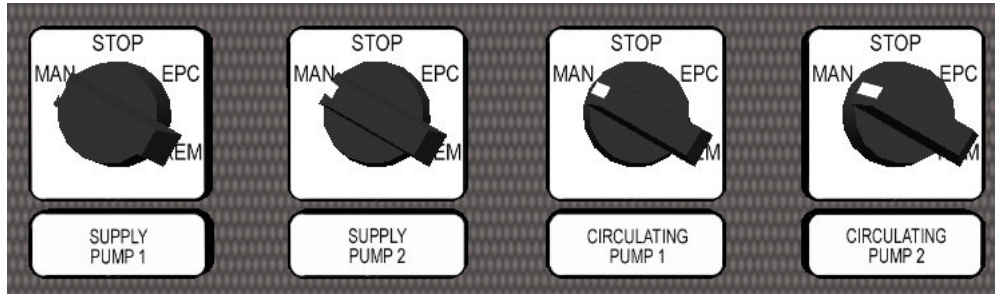

Fig. 32. Supply and circulating pump switches – manual position
1. Start the supply and the circulation pumps in the manual position (in any order) (fig. 32).